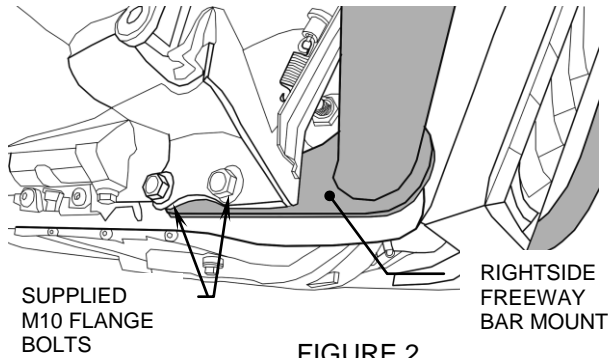
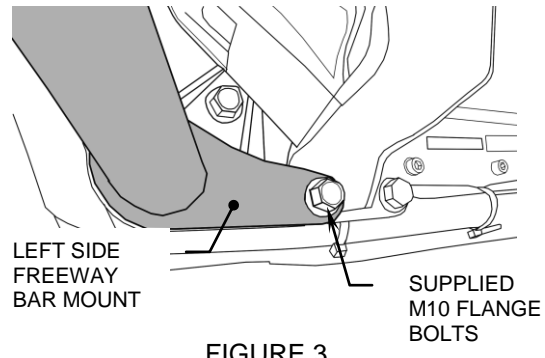

FIGURE 2.
FIGURE 3.
2. Slide the new Cobra freeway bar between frame and front fender with the lower mount brackets facing to the rear. On the **right** side insert (2) supplied M10-1.25 x 35 mm bolts through floorboard mount, then freeway bar mount and into frame, see Figure 2. On the **left** side insert supplied M10-1.25 x 35 mm bolt through freeway bar mount, floorboard mount and into frame, see Figure 3